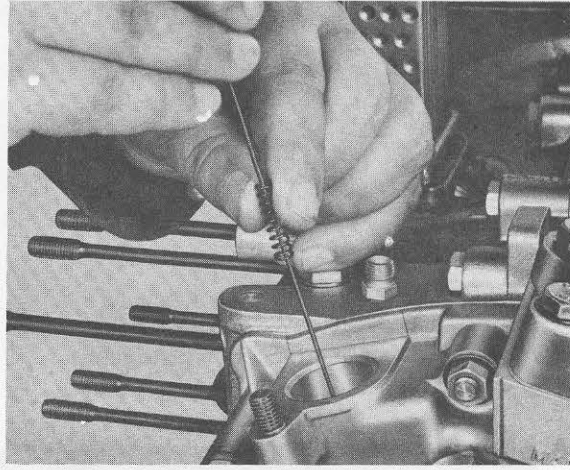

Fig. 147
4. Insert spring into pinion shaft with the help of a welding rod or a thin screwdriver (see Fig. 147).